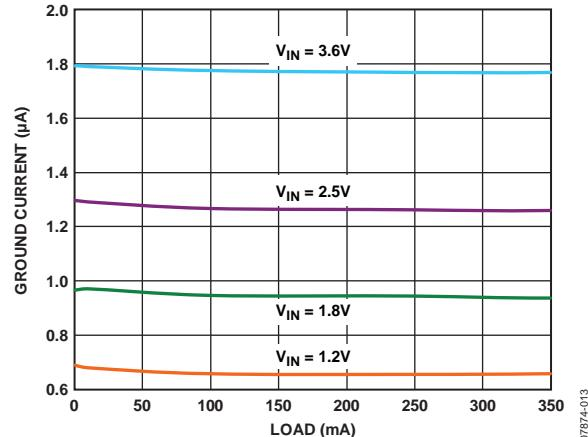

Figure 19. Ground Current vs. Load Current
The major source for ground current in the ADP190/ADP191 is the $4\text{ M}\Omega$ pull-down on the enable (EN) pin. Figure 19 shows typical ground current when $V_{EN} = V_{IN}$ and V_{IN} varies from 1.1 V to 3.6 V.